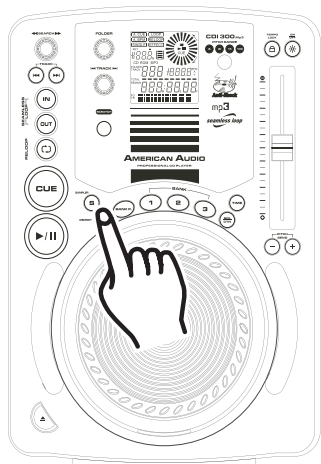
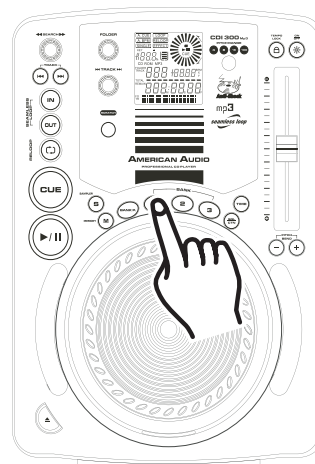

Figure 16
Figure 17
- 1) Create a Cue Point by one of the two means listed on page 16. Press the **MEMORY BUTTON (14)**, as in Figure 16. The red Memory Cue LED will glow indicating the store memory function has been activated. You may now press any one of the three **BANK BUTTONS (9)** to store your cue point into memory (Figure 17). After pressing one of the **BANK BUTTONS (9)**, the corresponding Bank Button LED will flash briefly. The LED of the **BANK BUTTON (9)** will remain lit indicating either a sample or cue point is stored in memory. The red Memory LED will turn off.